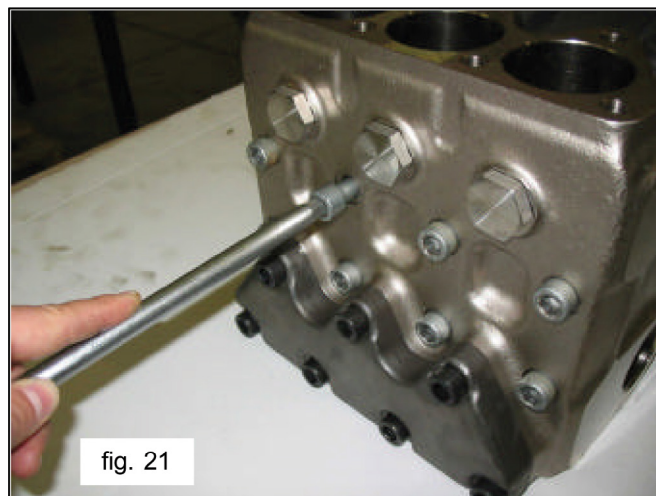

fig. 21
A) Unscrew the M12x150 head fixing screws as indicated in fig. 21.